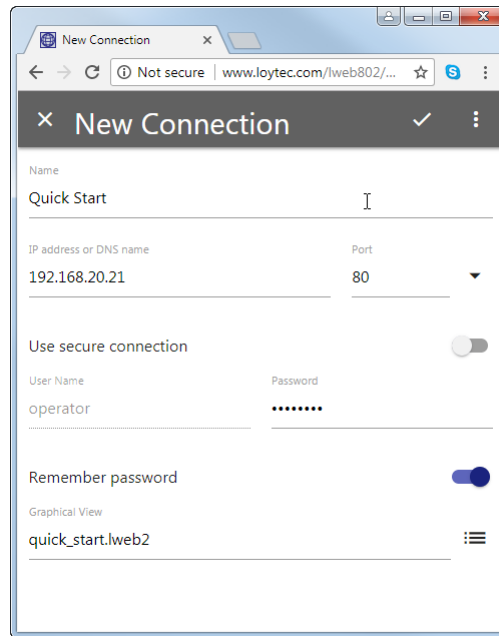

Figure 59: LWEB-802 new/edit connection
- **Add new project:** Click on the plus icon to add a new project, The **New Connection** dialog is opened (see Figure 59).